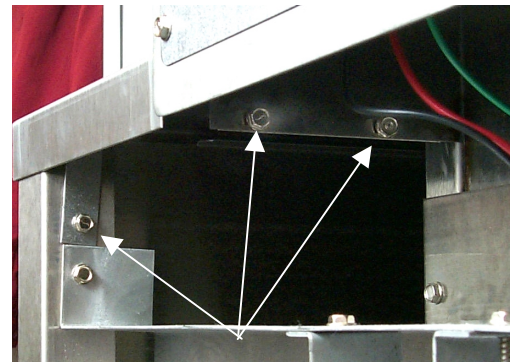

Fig.2: Three screws hold top in place.
- Remove the three screws that hold the top cover in place. Fig. 2 **Note:** Screws that secure the top on the larger Sinbad are inside the hopper motor housing.